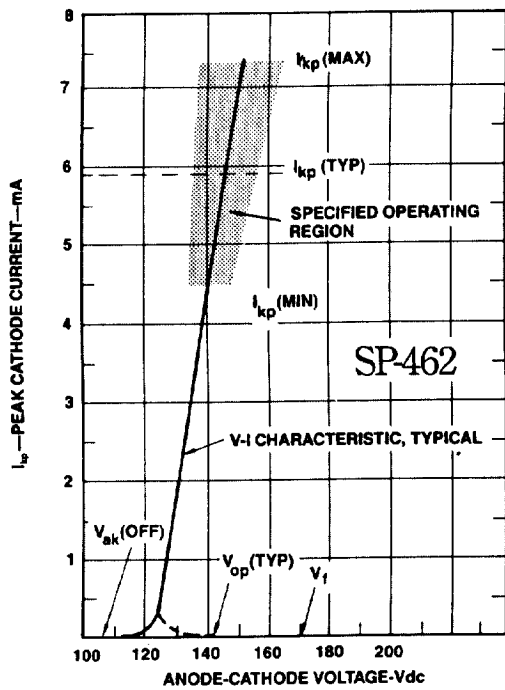

FIGURE 3. Typical V-I Characteristics
- c. Operating Voltage, V_{op}: The voltage drop from anode to cathode at typical cathode current. (See Figure 3.)
- e. Anode Firing Voltage, V_f: The minimum voltage required to start ionization in the display. (See Figure 3.)
- f. Threshold Voltage, V_{ak}(OFF): The anode to cathode voltage at which the display conduction drops below 10 μA when moving left along the operation curve. (See Figure 3.)
1. Current density is the cathode current divided by the cathode area. The minimum cathode current density is the peak current density that just causes a segment to have a uniform glow. See Figure 3.